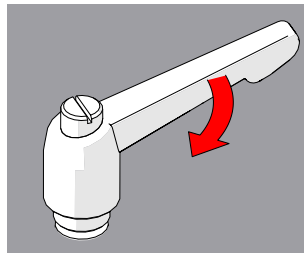

Fig. 34 - Tighten handle
3. Release the lever and utilize the new tightening position (*Fig. 34*).